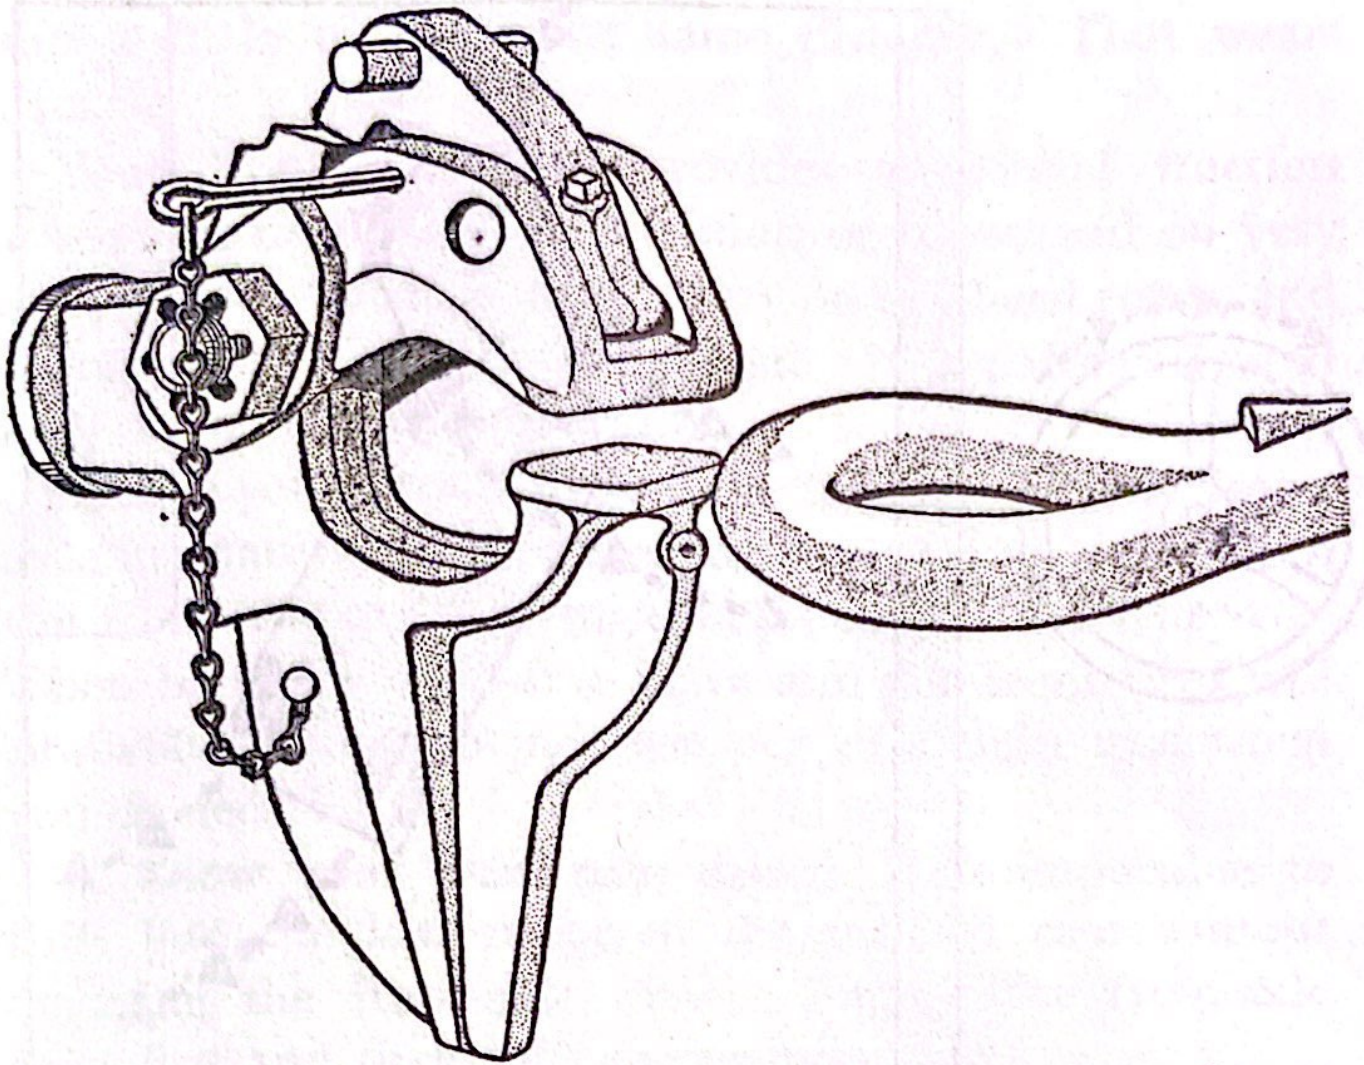

Figure 3. Pintle hook and lunette.
12. ATTACHING A TRAILER. Trailed loads should be attached to the tractor by a lunette (on the trailed load) placed in a pintle hook (on the tractor). Make sure that the pintle latch is closed and secured before you move the trailed load. (See fig. 3.)